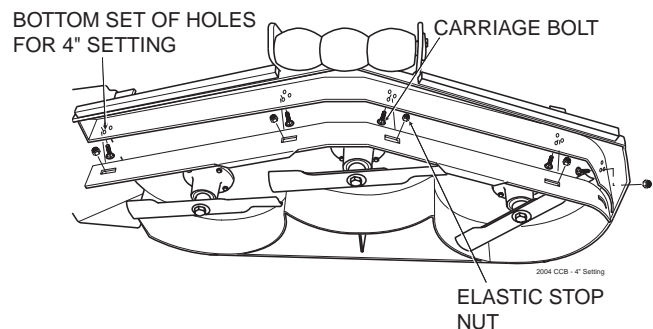

Figure 12. 4" Custom-Cut Baffle Position
- C. 4" Position (factory setting for Velocity-Plus cutter decks) - baffle is installed using the bottom set of holes on the front baffle welded inside the cutter deck. (See Figure 12). Placing the baffle in the 4" setting will enhance fall cutting (leaf pickup) and reduce cutter deck "blowout".